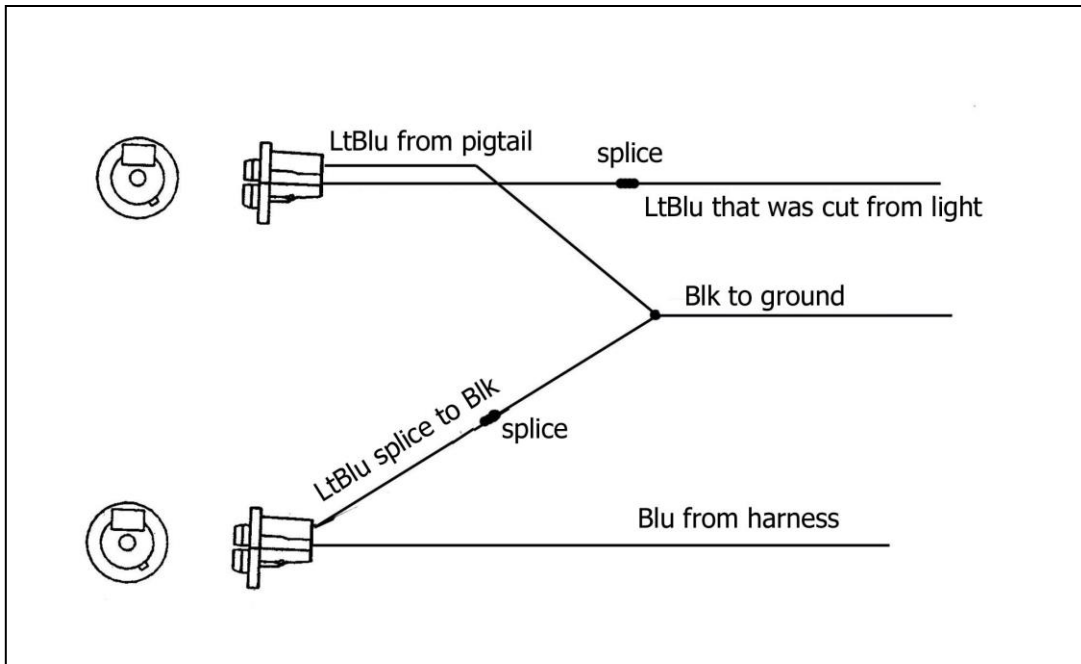

Figure 7.18C Turn Signal Diagram
- 7.14.9 Dual Turn Signal Indicator Lights –** The light socket labeled **(TURN)** will be used here. First, cut the Light Blue wire off this socket. **(Leave enough wire length on the socket to crimp another wire to it).** Take the extra turn signal light pigtail included in the kit and splice this Light Blue wire to the harness side of the Light Blue wire in the kit and splice the loose Black wire on the extra turn signal light pigtail to the socket side of the Light Blue wire you cut. Install the extra turn signal light socket into the Left Turn Indicator slot. The light socket labeled **(TURN)** will be installed in the Right Turn Indicator slot. Refer to **Figure 7.18C.**